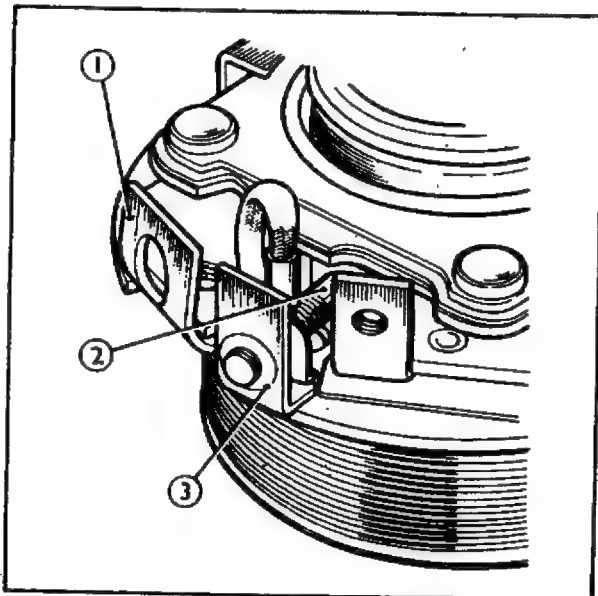

Fig. 72 – Solenoid Terminal and Insulators
1. Fit the protection collar (special Service Tool No. 6244—6) over the end of the pinion sleeve and insert the pinion assembly into the drive-end shield, ensuring that the dust scraper ring (45) is not damaged in the process.
3. Place the solenoid terminal, solenoid terminal insulator, and main terminal insulator on the solenoid assembly as shown in Fig. 72.
4. Insert the solenoid assembly into the drive endshield and fasten it in position with spring washers and self-tapping screws (31). Drop the anodized metal strip on the inside face of the main terminal insulator.
5. Push the solenoid terminal (21) into its hole, and replace bush (19), spring washer and nut (20).